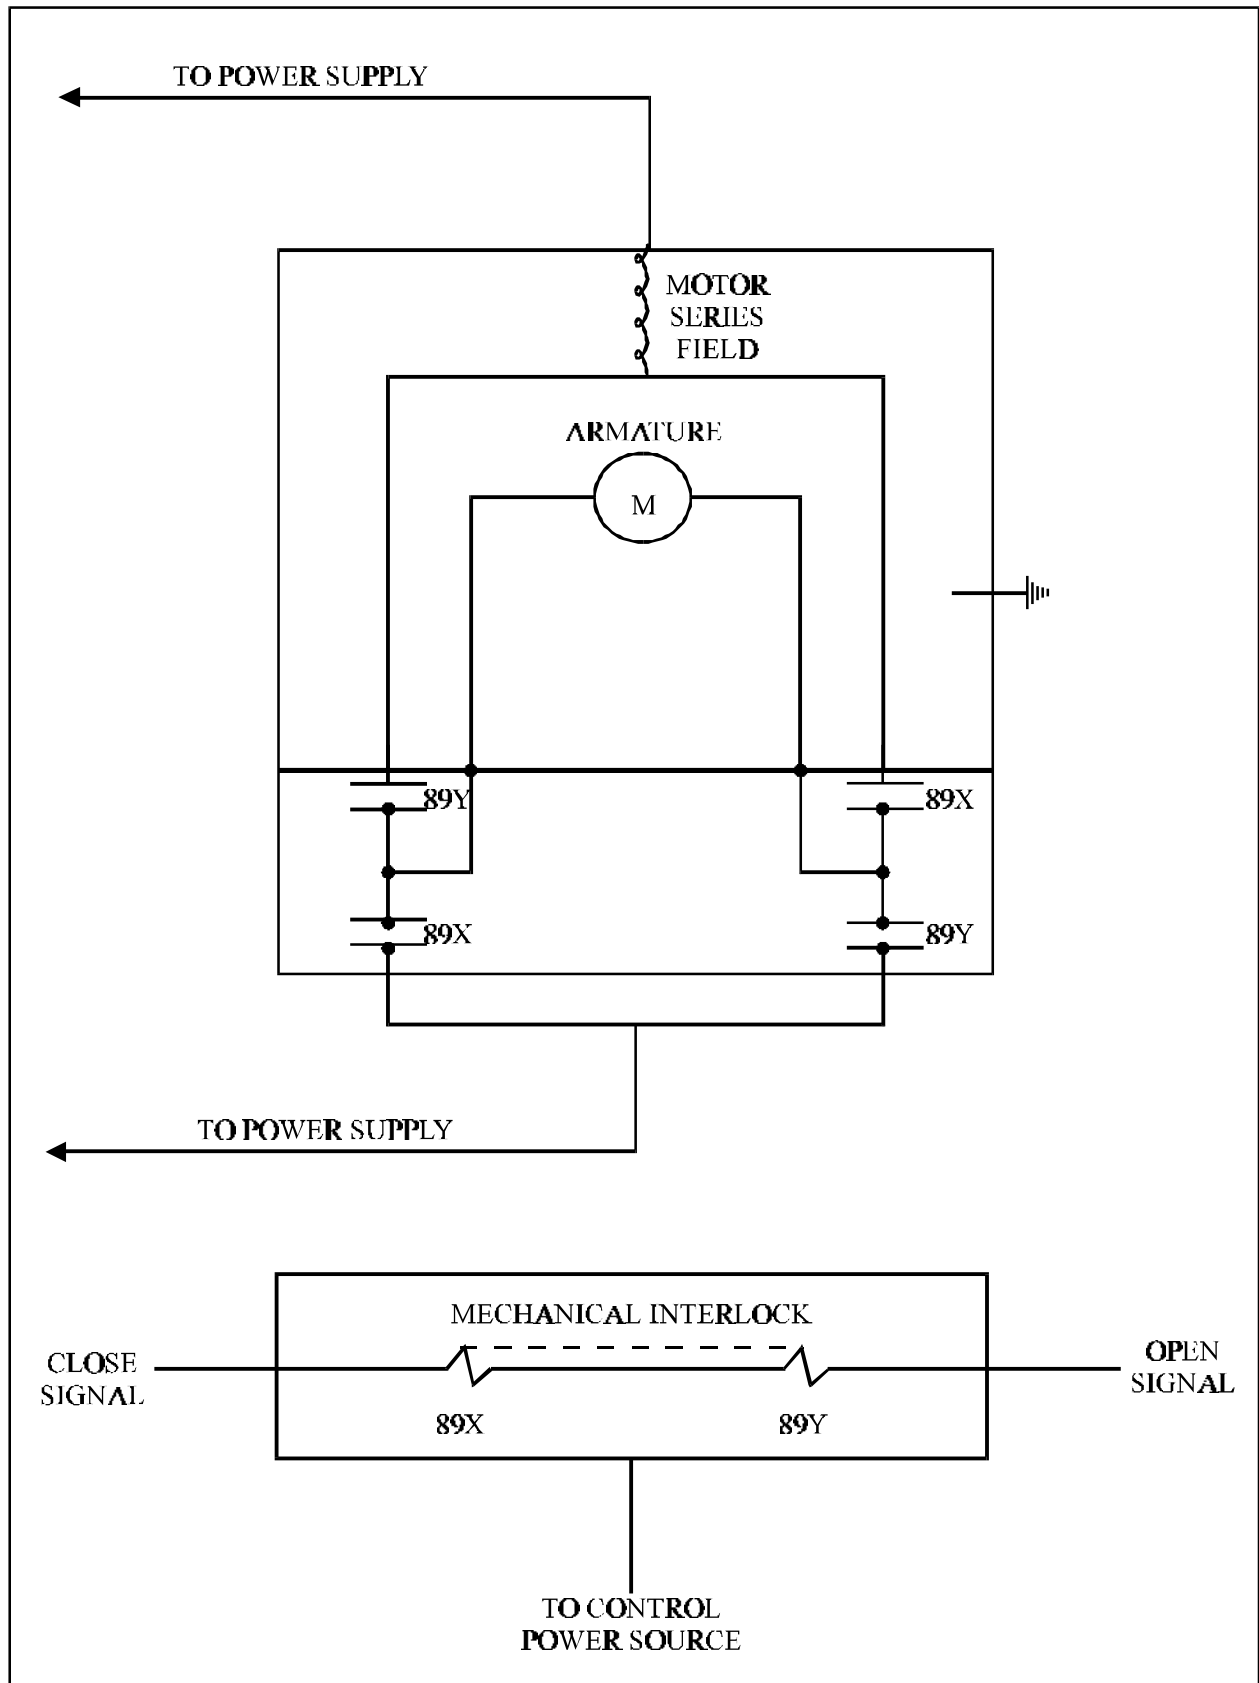

Figure 3. Wiring
Movement of the solenoid (SOL) (Figure 3) compresses spring (SP) and engages clutch (CL). Motor rotates sprocket (SRA) which through its chain drive (CHA) rotates the PIF drive shaft to close the load break switch.
(Refer to Figures 3 and 4)